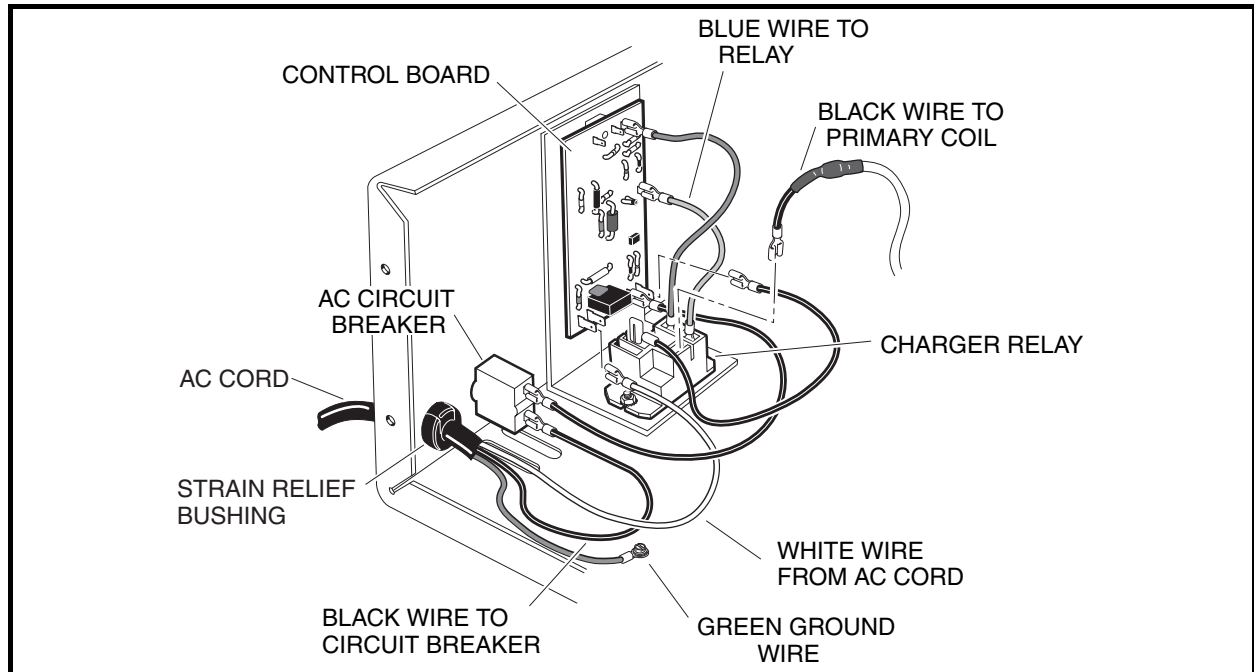

Figure 9-19 Charger Relay
3. Disconnect all wires from the relay (**Figure 9-19, Page 9-27**).
Install in reverse order of removal. Connect wires as shown (**Figure 9-19, Page 9-27**). Tighten nuts securing relay to charger base to 18 in-lb (2.0 N·m).
3. Disconnect the two black wires attached to the AC circuit breaker (**Figure 9-19, Page 9-27**).
3. Disconnect the AC cord black wire from the AC circuit breaker (**Figure 9-19, Page 9-27**).
5. Disconnect the AC cord green wire from the charger base (**Figure 9-19, Page 9-27**).
1. Insert the black, white, and green leads of the new AC cord into the charger through the hole in the charger face (**Figure 9-19, Page 9-27**).